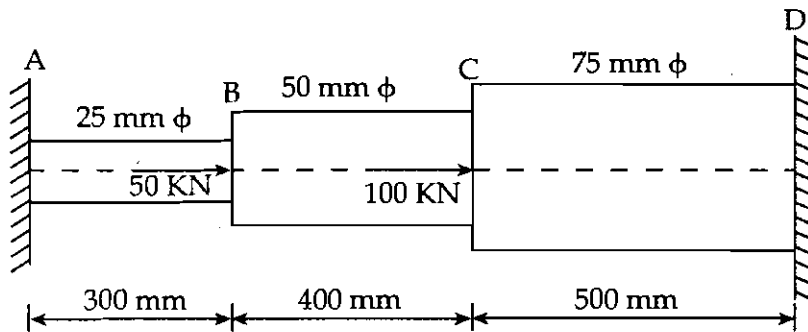

Figure 2
- (b) A circular steel bar ABCD, rigidly fixed at A and D is subjected to loads of 50 kN and 100 kN at B and C as shown in Figure 2, Find the loads shared by each part of the bar and displacements of the points B and C. Take  $E$  for steel as 200 GPa. 10